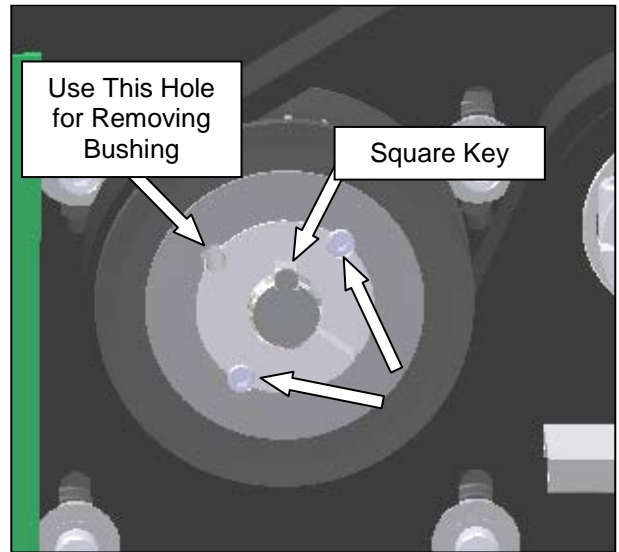

Figure 3-293. Gearbox Mounting Screws
3. Remove the two set screws from the taper-lock bushing on the gearbox pulley. Using one of these set screws, thread into the middle hole (identified in Figure 3-293). This will remove the bushing from the pulley, thus removing the pulley and bushing from the gearbox. Note: The gearbox shaft and the bushing are coupled to spin together with a square key. This will also be free once the bushing is removed.